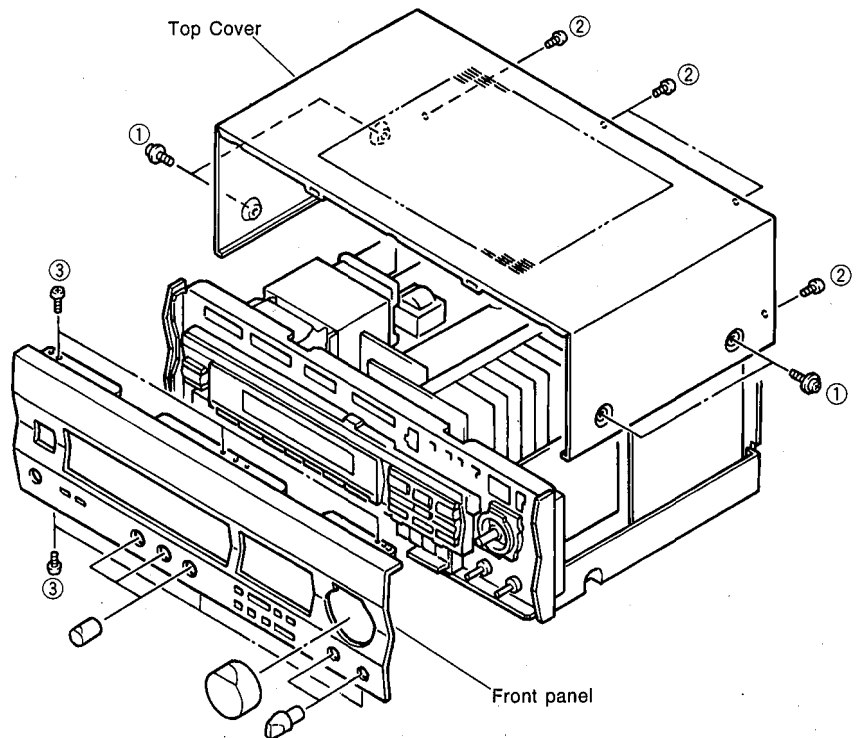

Fig. 1
- ⑤ P. C. B. TUNER
- ⑥ P. C. B. INPUT (6)
- ⑦ P. C. B. MAIN (3)
- ⑧ P. C. B. MAIN (1)
- ⑨ P. C. B. INPUT (5)
- ⑩ P. C. B. OPERATION (2)
- ⑪ P. C. B. INPUT (1)
- ⑫ P. C. B. INPUT (3)
a. Remove 4 screws (①) and 4 screws (②) in Fig. 1.
b. Remove 6 screws (③) in Fig. 1.